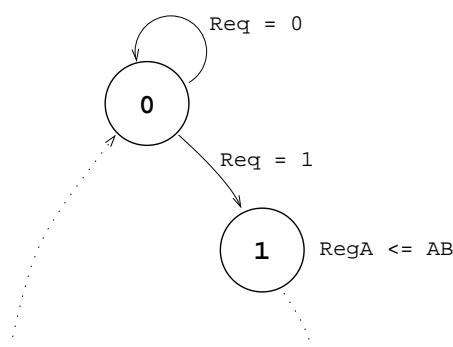

Figure 3: State diagram for the control FSM (Moore type).
- b) Design a state diagram for the controller by completing the state diagram fragment shown in Figure 3. Do not specify individual control signals; we will add such details later. What matters are the states, the state transitions, the conditions/predicates controlling the state transitions, and the RT-operations performed in the different states. The latter is exemplified by `RegA <= AB` in state 1 in Figure 3.